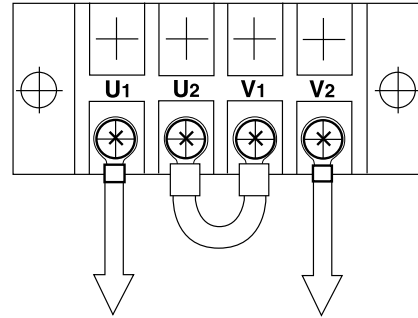

Figure 28: Output Terminal Board, 240 Volt Output
- b. Connect U2 to V1 on the output terminal board (Figure 28, also see page 31).